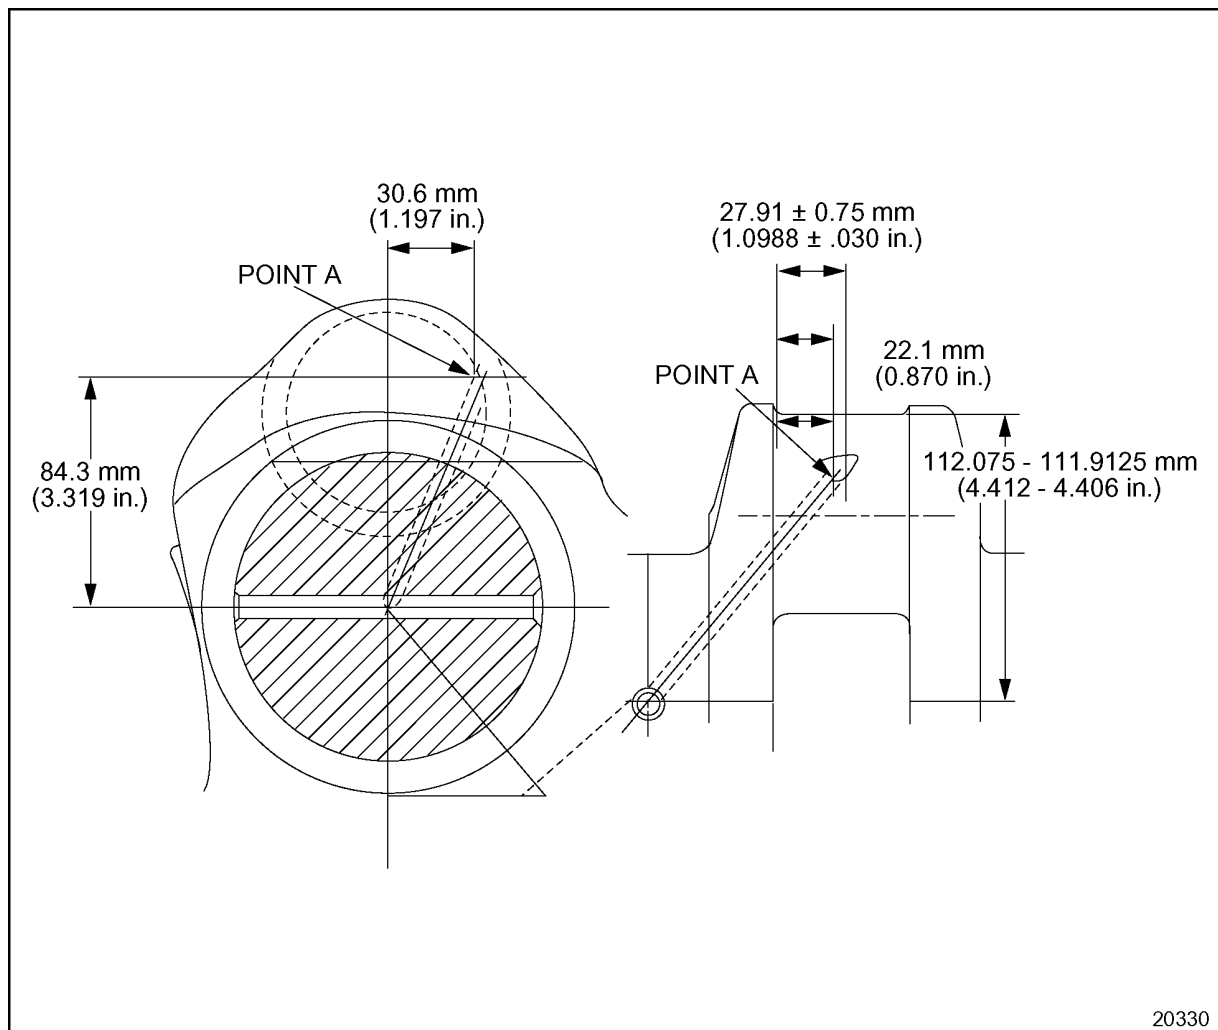
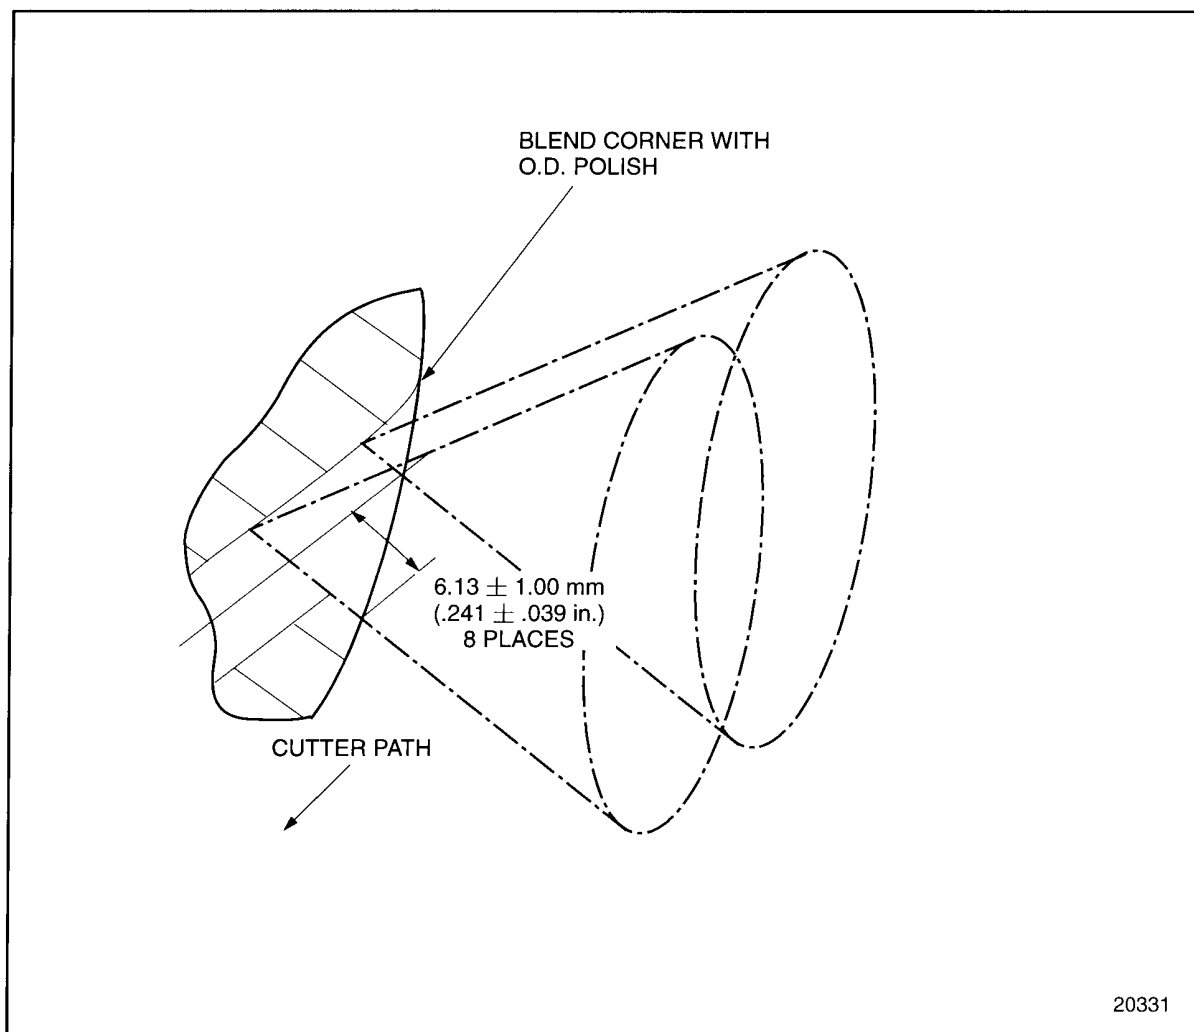
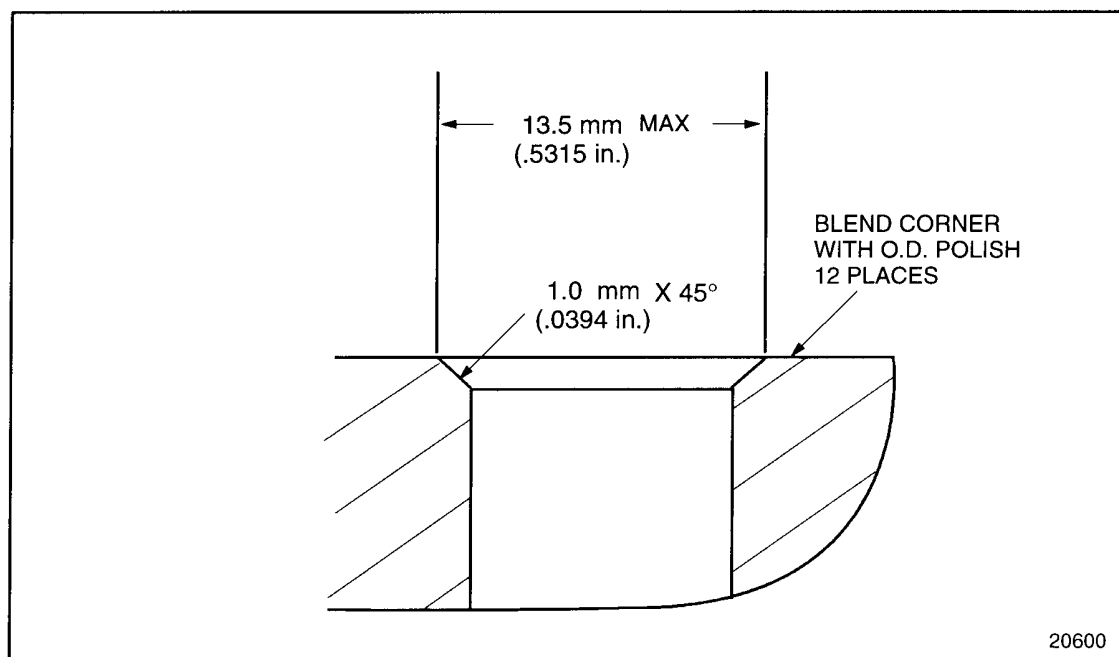

Figure 1-445 Oil Hole Specifications - Connecting Rod Journals - Crankshaft (160 mm stroke)
Figure 1-446 Connecting Rod Journal Oil Hole Chamfer Limits
Figure 1-447 Main Journal Oil Hole Chamfer Limits
2. Chamfer all oil holes to remove grinding burrs to the limit shown on illustrations. See Figure 1-445. See Figure 1-446. See Figure 1-447.